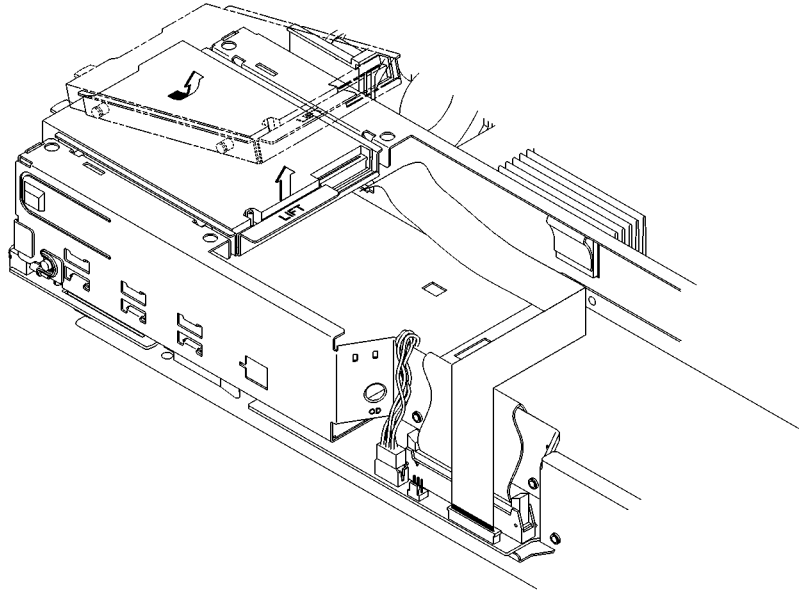

Figure 34
- 2 Lift the rear of the floppy disk carrier, push the carrier toward the rear of the disk tray, then lift the front of the floppy disk carrier from the Storage Tray, as shown in Figure 34.